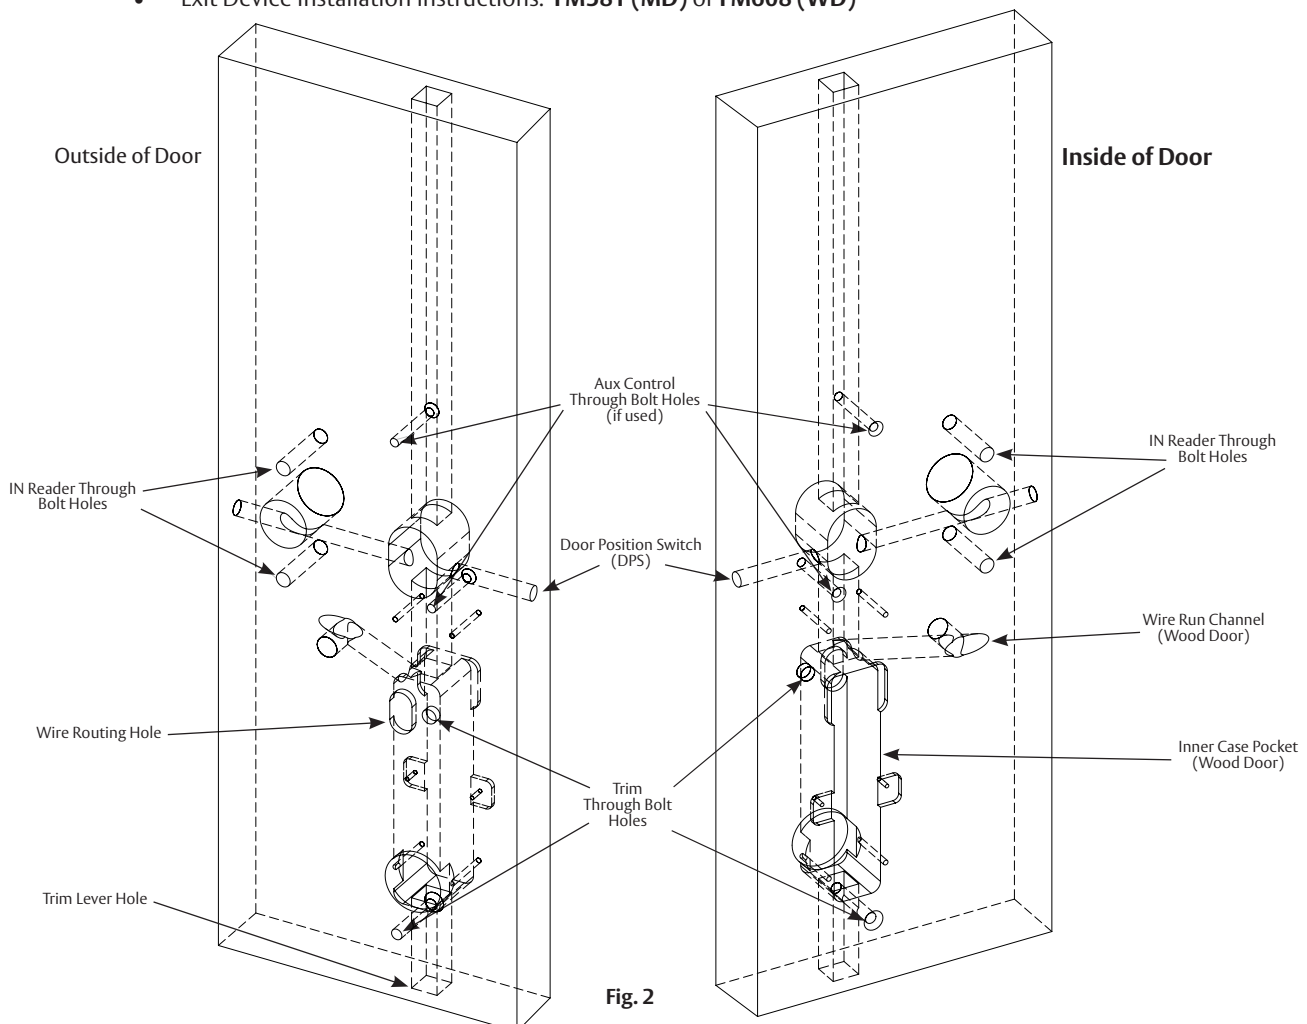

Fig. 2
d. Mark and drill door. (Fig. 2)